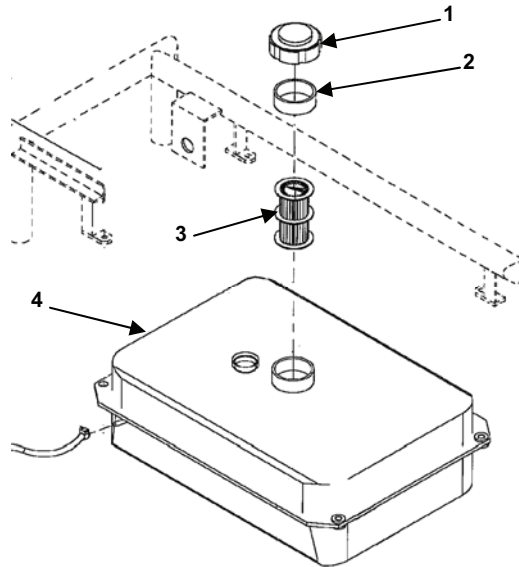

Figure 2. Fuel Strainer.
2. Remove the fuel cap (Figure 2, item 1), cap gasket (Figure 2, item 2) and fuel strainer (Figure 2, item 3) from the tank (Figure 2, item 4).
3. Replace the cap (Figure 2, item 1) once the strainer is removed to avoid contaminants from entering the fuel tank (Figure 2, item 4).
4. Clean fuel strainer (Figure 2, item 3) with soapy water and wipe it dry.